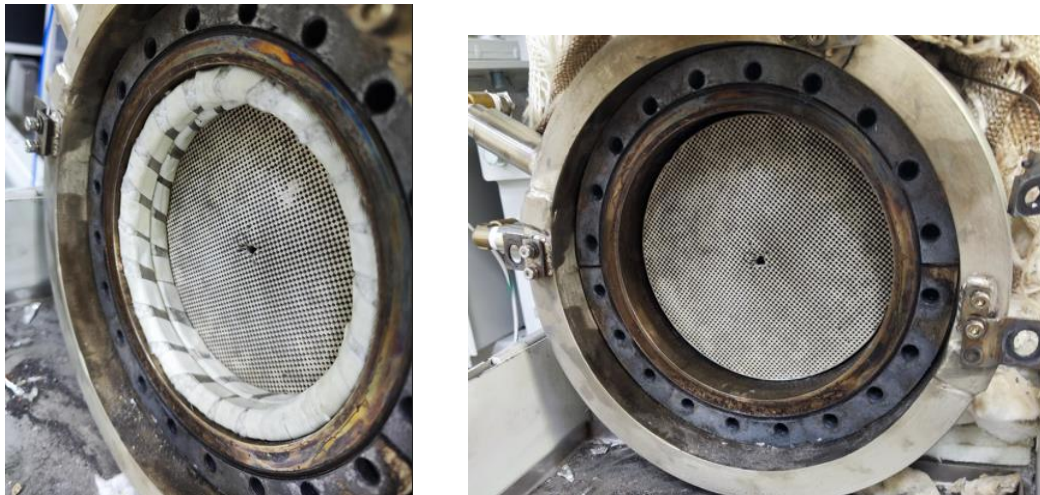

Fig 10
10. Remove the Ring (See Fig 10)